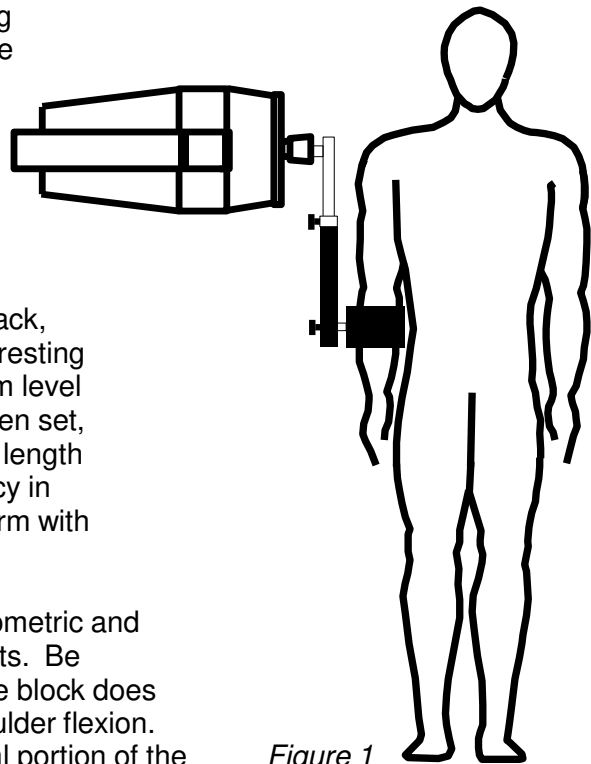

Figure 1
6. Adjust the length of the tool. Loosen the black, T-knob and slide the tool so that the pad is resting on the dorsum of the forearm at mid-forearm level (see Figure 1). When proper length has been set, securely tighten the T-knob and **record** the length of the tool in the NOTES field for consistency in future set-ups. Secure the pad to the forearm with the Velcro strap.